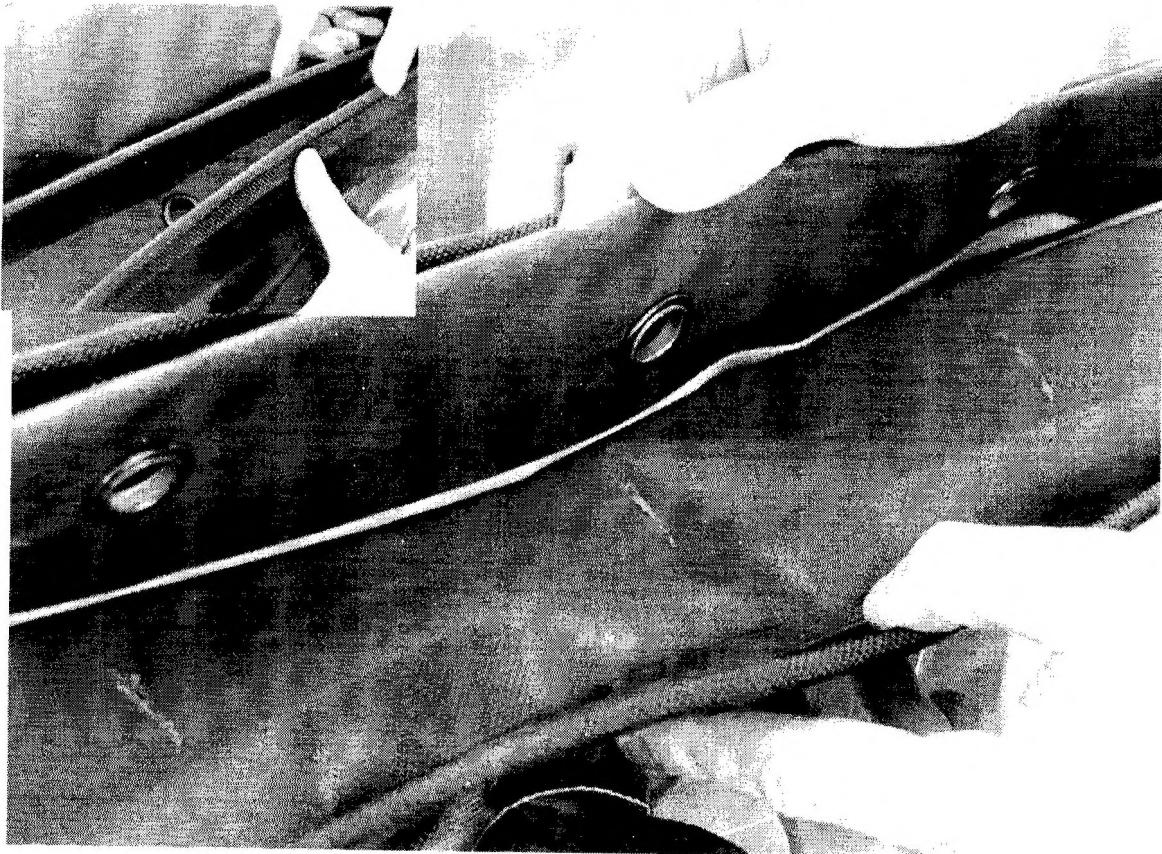
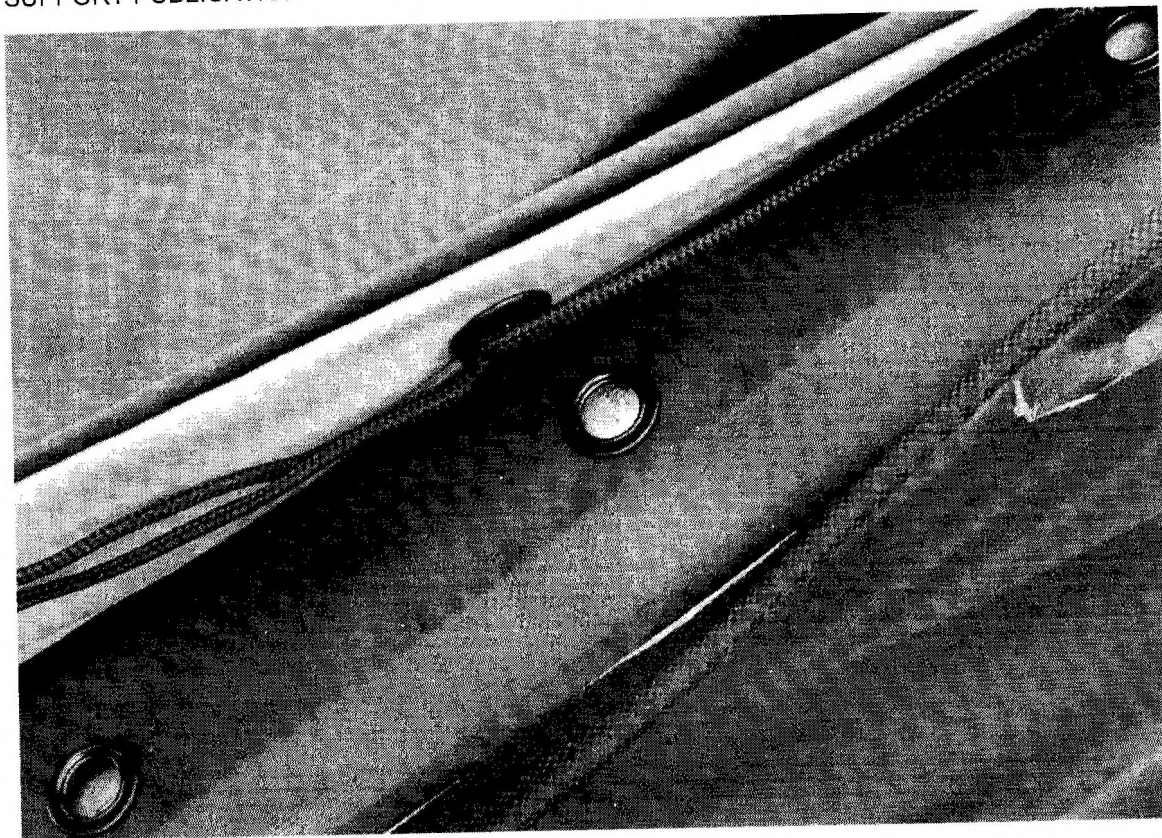

Figure 22: Adjusting flap positions at joints Right Hand Side
Figure 23: Adjusting flap positions at joints Right Hand Side
35. At the joints between the end wall and the roof and wall covers there are a number of flaps. This is due to the combination of the keder rail and dutch lacing combination. The flaps should be interlinked as detailed in Fig 22 and closed together as inset to aid the joining of the keder rail. Note on the right-hand side of the roof looking on the end of the tent the eyelets will be directly under the keder, on the left-hand side there will be a plane flap Fig 23.